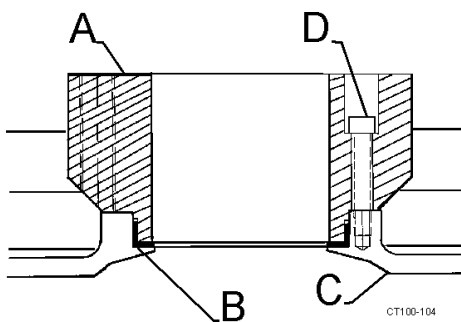

Figure 35 - Insert L-gasket and Fasten Adapter in Place
5. Insert L-gasket into the backplate. (Figure 35, items B and C).
6. Insert cartridge adapter (Figure 35, item A) into the backplate (Figure 35, item C) and tighten with four socket head cap screws.(Figure 35, item D).